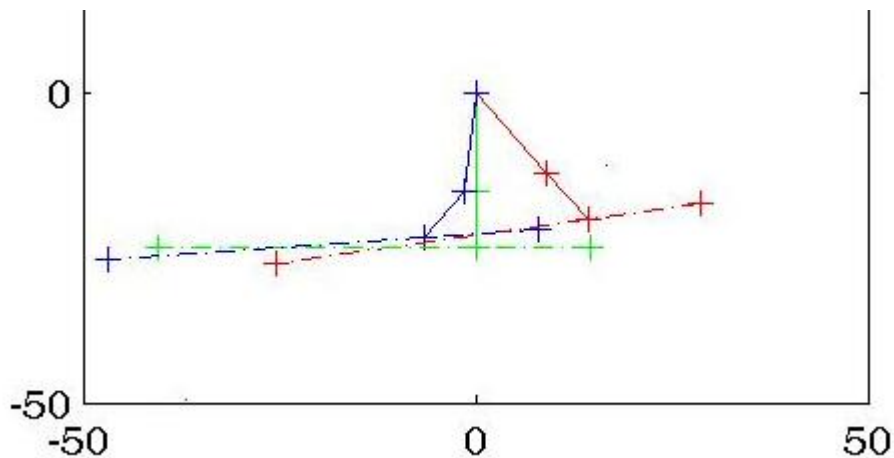

Figure 2: Plot of leg with platform attached to the foot in three different positions.
- 2.3) The bar that the user will be standing on will be called *the platform*. See Figure 2. The platform will give you the three positions of the coupler from which you will determine the fourbar linkage for your customized elliptical machine. The position of the ankle gives you three positions of a point on the platform, but not the angle of the platform relative to the ground (or heel). You will need to determine the three angles that will allow you to create a feasible elliptical machine.